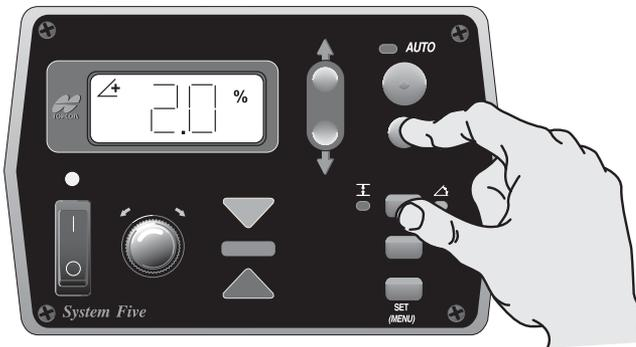

Figure 5-14. Identifying Slope
4. To find out the slope and direction of fall the slope sensor thinks the screed is resting on, push the Survey button for one second to lock sensor on-grade (Figure 5-14).